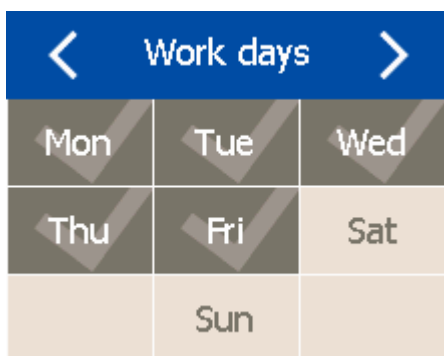

Fig. 92: Working days
- ⇒ The 'Work days' screen (Fig. 92) displays.
- 2. ▶ Use the screen in Fig. 92 to select all working days of the week.